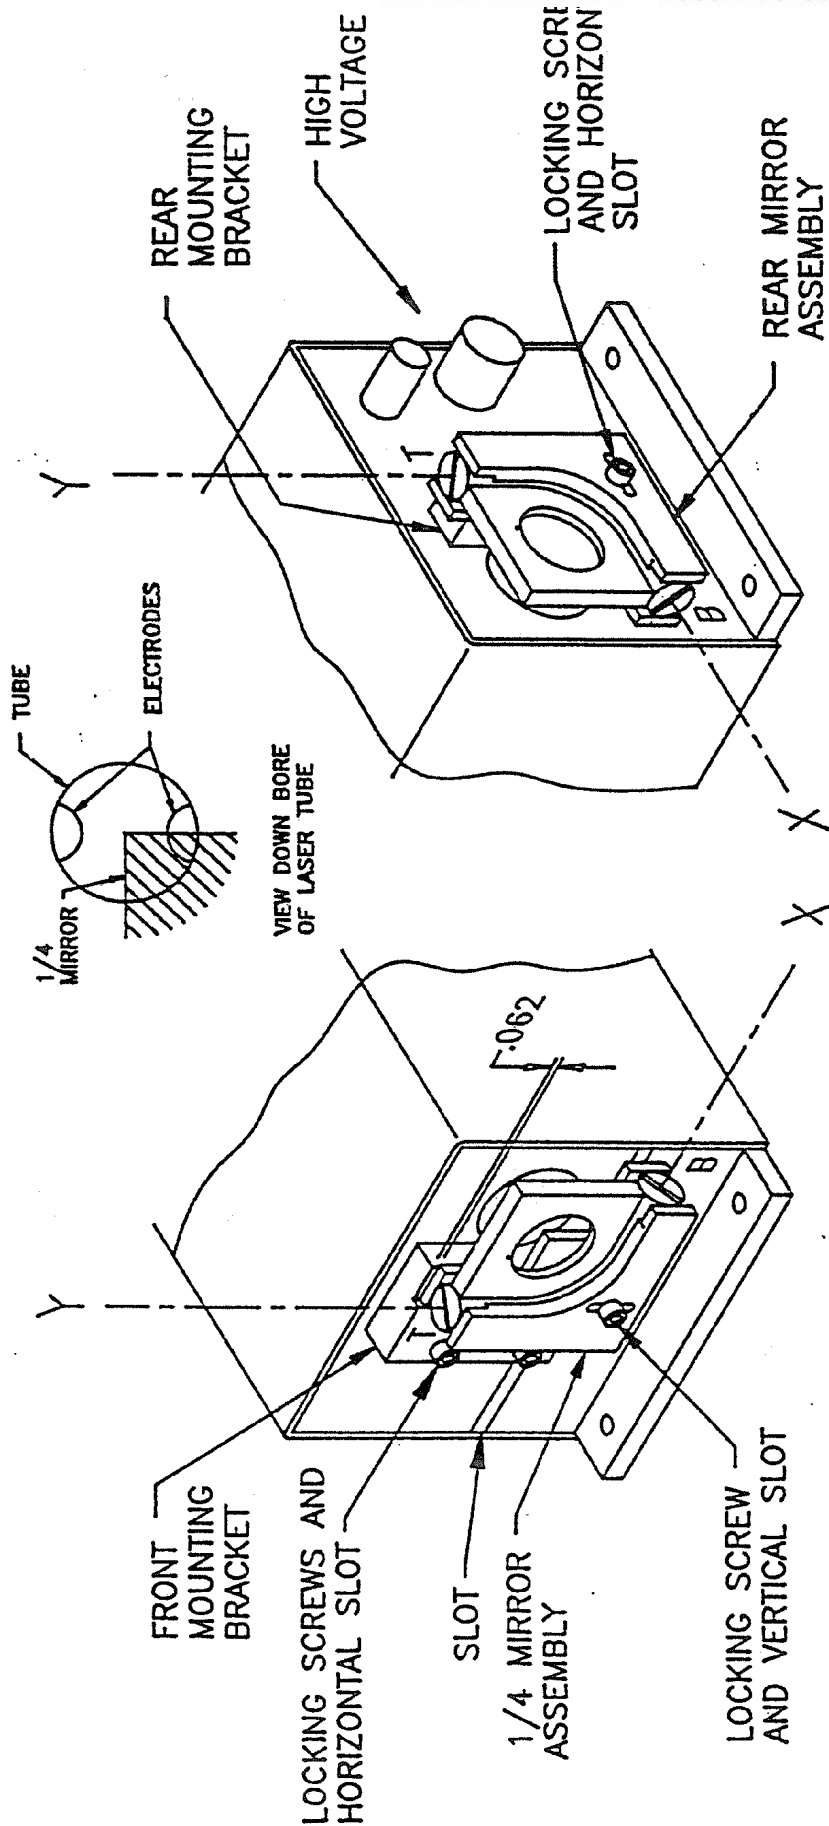

FIGURE 3. PLASMA CARTRIDGE
The resonator mirrors are an integral part of the plasma cartridge as shown in Figure 3. The mirror mounts are designed to stay in alignment with even rough handling of the laser. However, care must be taken in handling the plasma cartridge separately, since undue pressure on the cantilevered ends of the mirror mounts can cause some minor misalignment.
The mirror mount assemblies are secured to mounting blocks that are in turn secured to the plasma cartridge chassis. The only adjustments normally required can be achieved with the four screws marked T (Top) and B (Bottom), indicated in Figure 3- one set of 2 on the front 1/4 mirror and another set of 2 on the rear mirror. For this procedure do not loosen any of the allen head screws.
- 4) Attach mirror assembly to bracket and tighten locking screw over vertical adjustment slot. Leave 1/16 inch space from top of mirror assembly to top of mounting bracket as indicated in Figure 3.
- 5) From the front look down the bore of the plasma tube past the 1/4 mirror at a diffuse light source such as fluorescent lights. Tilt the plasma cartridge until you see equal portions of the electrodes down their entire length. The center (corner) of the 1/4 mirror should then be centered on the electrodes as shown in Figure 3. Centering can be achieved by (a) loosening the two screws that hold the front mounting bracket- horizontal adjustment or by (b) loosening the locking screw on the mirror assembly- vertical adjustment.